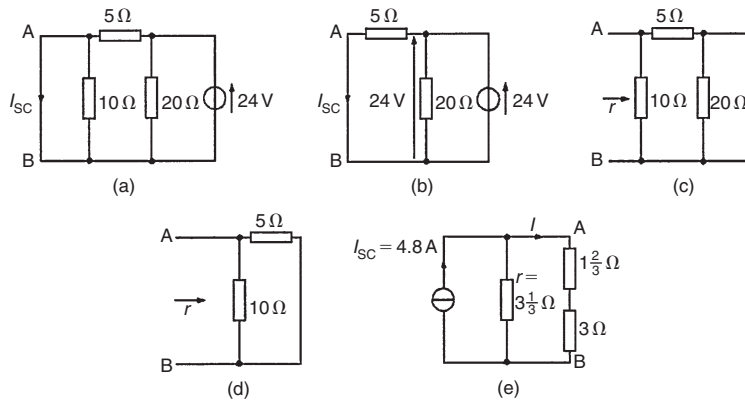

Figure 13.61
- (i) The branch containing the  $3 \Omega$  resistance is short-circuited as shown in Fig. 13.61(a).
(ii) From the equivalent circuit shown in Fig. 13.61(b),
- (iii) If the  $24 \text{ V}$  source of e.m.f. is removed the resistance 'looking-in' at a break made between A and B is obtained from Fig. 13.61(c) and its equivalent circuit shown in Fig. 13.61(d) and is given by:
- (iv) From the Norton equivalent network shown in Fig. 13.61(e) the current in the  $3 \Omega$  resistance is given by: